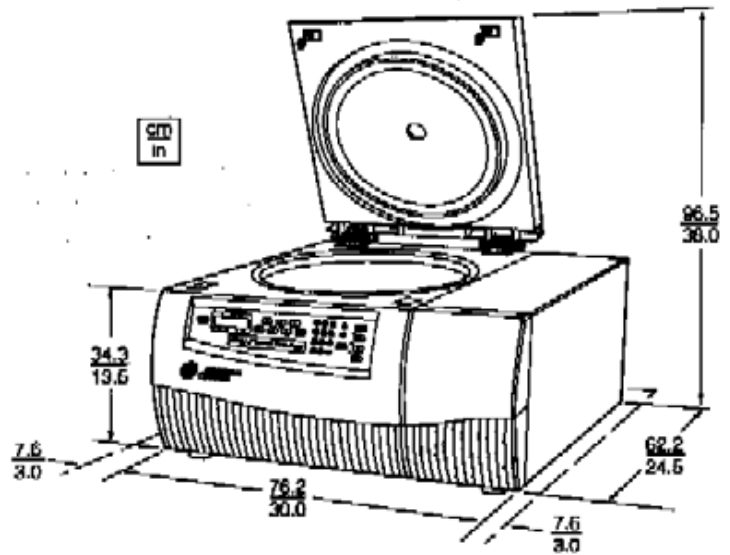

Figure 1. Centrifuge Dimensions
- Position the centrifuge on a level surface such as a sturdy table or laboratory bench that can support the weight of the centrifuge X-12/R (121 kg/ 267 lb) or X-15R 128 (283) and resist vibration.
- In addition to space for the centrifuge itself, allow 7.6 cm (3 in) clearances at the sides and back of the centrifuge to ensure sufficient air circulation. (See Figure 1)